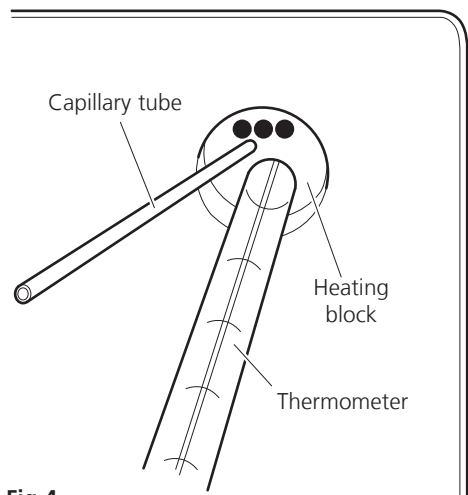

Fig 4
3. Insert the capillary tube into the side of the heating block via the holes provided (see Fig 4). A maximum of 3 capillary tubes can be inserted at any one time.